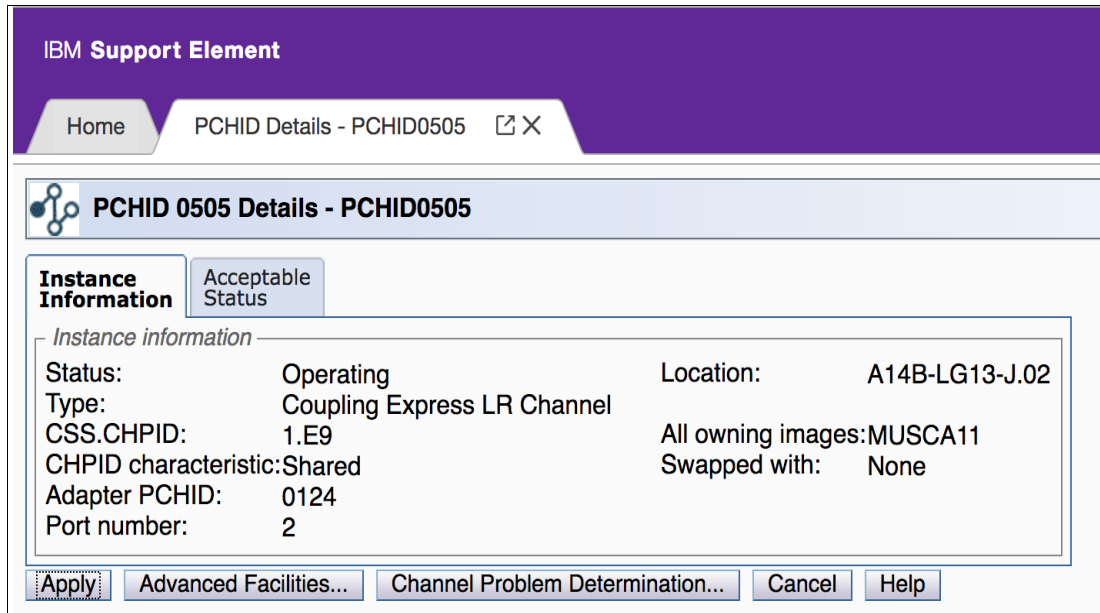

Figure 9-5 CL5 PCHID details
- d. For more information about the PCHID, click the PCHID to show the details, as shown in Figure 9-5 on page 206.